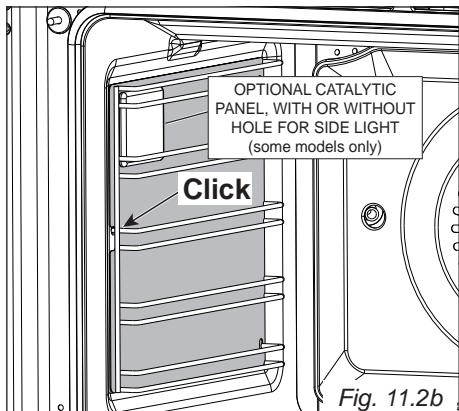

Fig. 11.2b
- Slide the front prong of the side rack into the holes at the front of the oven (fig. 11.2b).